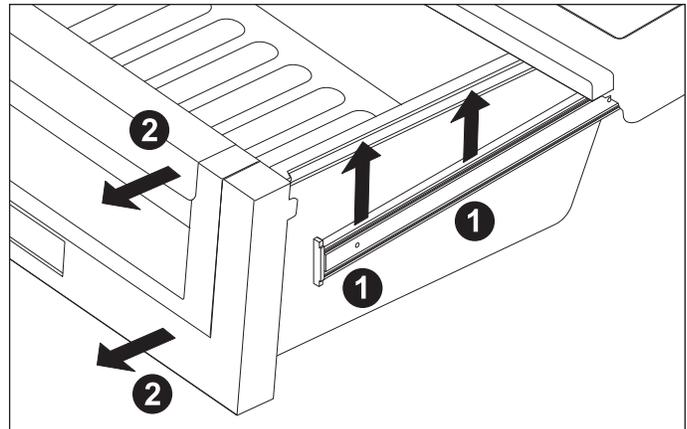

Figure 6-30.
2. Lift the front slightly and remove the drawer. (See Figure 6-30)